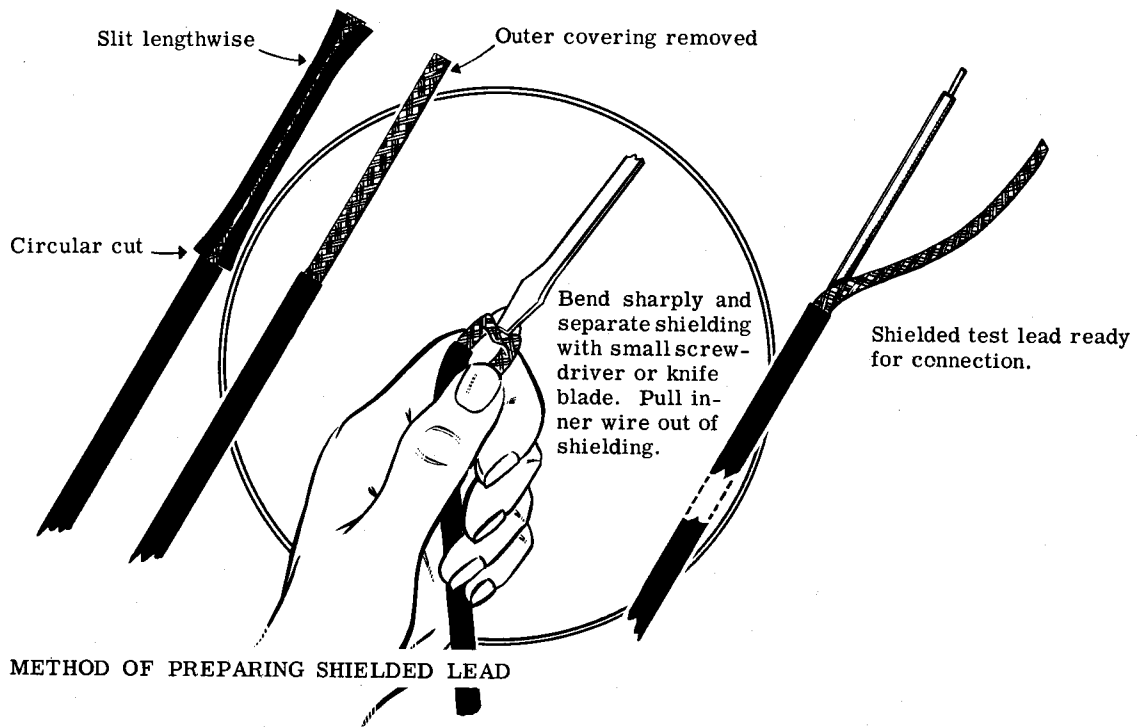

Figure 18
- (✓) Prepare the audio cable. Strip approximately 1" of outer rubber insulation from each end of the cable. At each end, bend the exposed shielding braid over and make an opening in it with a sharp pointed tool of some kind, such as an ice pick. Pull the insulated inner conductor through and strip away approximately 5/8" of insulation. Check with Figure 18.